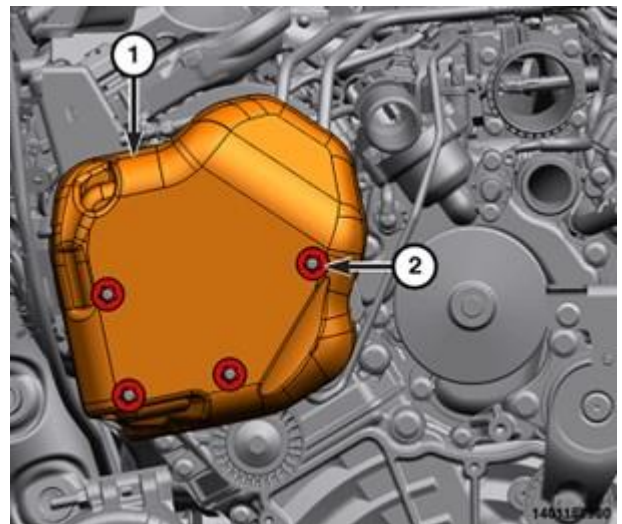

Figure 90 – Pump Silencer
- 179. Install the fuel injection pump silencer (1) and the fasteners (2) (Figure 90).